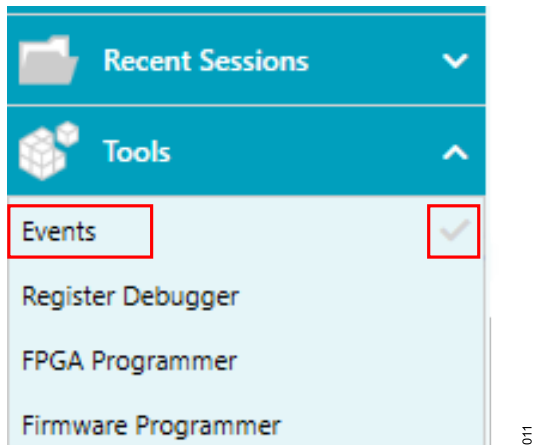

Figure 11. ACE Events Tool
- ▶ Enable and always use the **Events** tab to get indications of what the **ACE Software** is currently doing, receive error messages, and so on (see Figure 11).